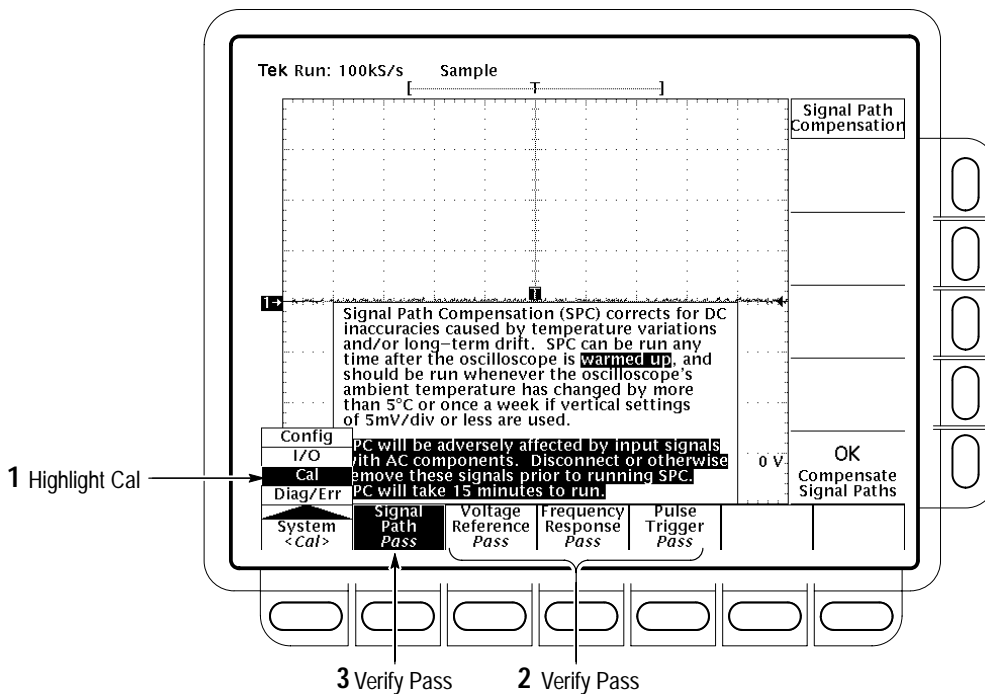

Figure 1–2: Verifying Adjustments and Signal-Path Compensation
- Refer to Figure 1–1: “Main menu” refers to the menu that labels the seven menu buttons under the display; “side menu” refers to the menu that labels
- Highlight **Cal** in the pop-up menu by repeatedly pressing the main-menu button **System**. See Figure 1–2.
- Verify that the word **Pass** appears in the main menu under the following menu labels: **Voltage Reference**, **Frequency Response**, and **Pulse Trigger**. See Figure 1–2.
- h. *Confirm signal-path compensation returns passed status:* Verify that the word **Pass** appears under **Signal Path** in the main menu. See Figure 1–2.
- a. *Hook up the signal source:* Install the probe on **CH 1**. Connect the probe tip to **PROBE COMPENSATION SIGNAL** on the front panel; connect the probe ground (typically black) to **PROBE COMPENSATION GND**. If using a P6243 or P6245 probe, you may want to attach a Y-lead connector and two SMD KlipChips as shown in Figure 1–3.
- The vertical scale readout for the channel under test shows a setting of 200 mV, and a square-wave probe-compensation signal about 2.5 divisions in amplitude is on-screen. See Figure 1–1 on page 1–3 to locate the readout.
- a. *Hook up the signal source:* Install the probe on **CH 1**. Connect the probe tip to **PROBE COMPENSATION SIGNAL** on the front panel; connect the probe ground to **PROBE COMPENSATION GND**. See Figure 1–3 on page 1–8.